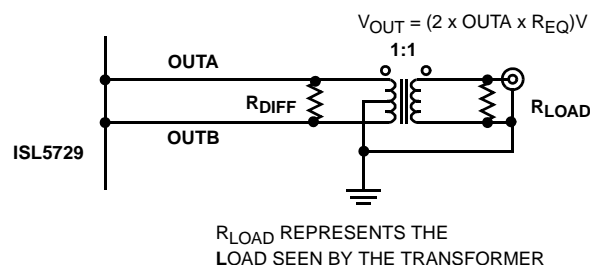
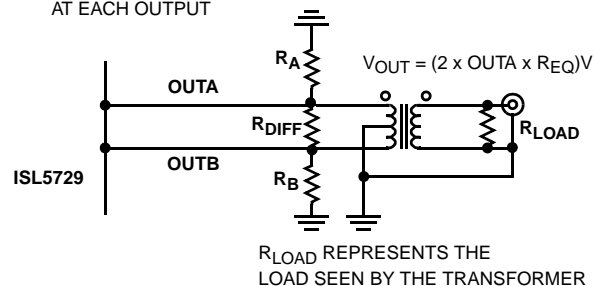

FIGURE 13. OUTPUT LOADING FOR DATASHEET MEASUREMENTS
FIGURE 14. ALTERNATIVE OUTPUT LOADING
# Typical Performance (+3.3V Supply, Using Figure 13 with $R_{DIFF} = 100\Omega$ and $R_{LOAD} = 50\Omega$ )
**Typical Performance** (+3.3V Supply, Using Figure 13 with  $R_{DIFF} = 100\Omega$  and  $R_{LOAD} = 50\Omega$ ) (Continued)
IOUTA and IOUTB can be used in a differential-to-single-ended arrangement to achieve better harmonic rejection. With RDIFF= 50Ω and RLOAD=50Ω, the circuit in Figure 13 will provide a 500mV (-2.5dBm) signal at the output of the transformer if the full scale output current of the DAC is set to 20mA (used for the electrical specifications table). Values of RDIFF= 100Ω and RLOAD=50Ω were used for the typical performance curves to increase the output power and the dynamic range. The center tap in Figure 13 must be grounded.
In the circuit in Figure 14, the user is left with the option to ground or float the center tap. The DC voltage that will exist at either IOUTA or IOUTB if the center tap is floating is IOUTDC × (RA/RB) V because RDIFF is DC shorted by the transformer. If the center tap is grounded, the DC voltage is 0V. Recommended values for the circuit in Figure 14 are
$R_A=R_B=50\Omega$ ,  $R_{DIFF}=100\Omega$ , assuming  $R_{LOAD}=50\Omega$ . The performance of Figure 13 and Figure 14 is basically the same, however leaving the center tap of Figure 14 floating allows the circuit to find a more balanced virtual ground, theoretically improving the even order harmonic rejection, but likely reducing the signal swing available due to the output voltage compliance range limitations.